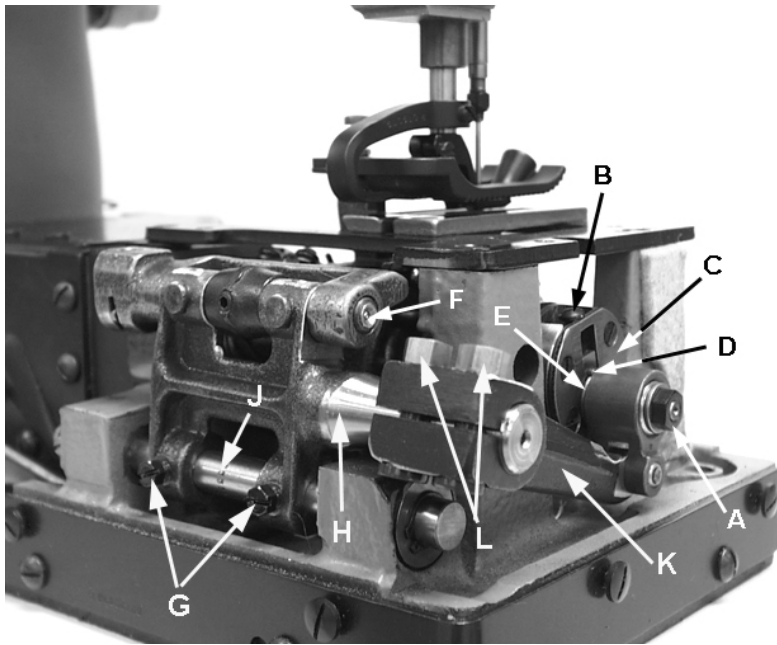

Fig 12
Right to left adjustment can be made by loosening screws (G, Fig. 12) and slightly move feed rocker (H) on feed rocker shaft (J) as required, then retighten screws. Check to ensure that feed rocker arm (K) does not bind after adjustment. Forward or rearward centering of feed dog can be accomplished by loosening nuts (L, Fig. 12), move feed rocker (H) as required and retighten nut.
Set the stitch to required length. This is accomplished by loosening lock nut (A, Fig. 12) 1/2 turn, (it has a left hand thread) on the end of the stitch regulating stud and turning stitch adjusting screw (B) located under the left end of the cloth plate in the head of the mainshaft (C), which is marked with "L" and "S". Turning the screw in a clockwise direction shortens the stitch (moves stitch regulating stud toward the "S") and turning it in a counterclockwise direction lengthens the stitch (moves stitch regulator stud toward the "L"). Retighten the lock nut securely. To prevent destructive damage to the feed drive bearing, key screw (D) must engage the "U" shaped key slot in ferrule (E).